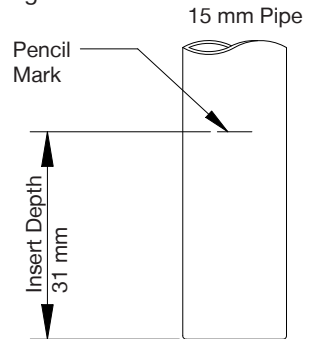

Fig. 7
Ensure the pipe is free from all score marks and deformities in the area of the insertion depth (Fig. 7) and cut the pipe square removing all burrs and sharp edges to prevent damage to the sealing 'O'-ring.
2. Prior to inserting pipe into fitting mark the insertion depth on the wall of the pipe with a soft pencil at a distance of 31 mm from the end to be inserted (Fig. 7).